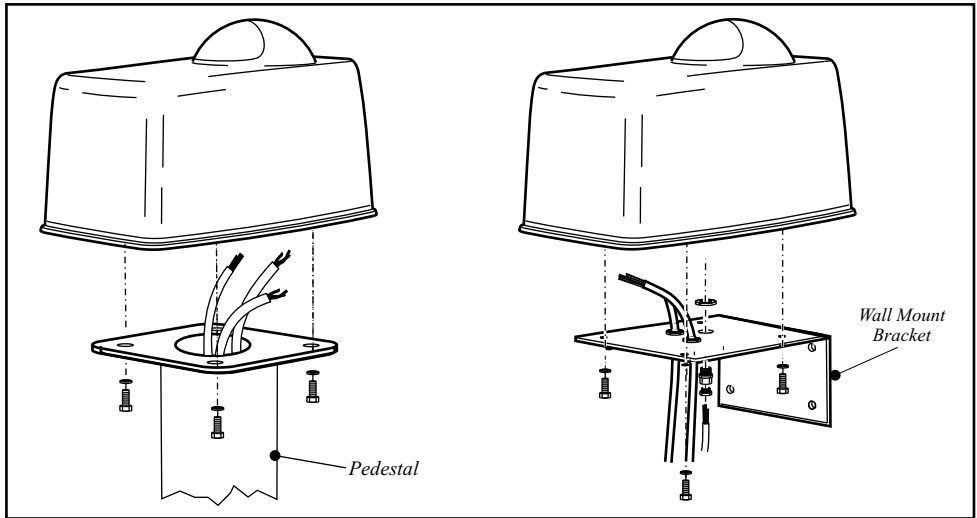

Figure 14 Secure Gearbox to Pedestal Adaptor or Wall Mount Bracket
- Fasten the motor onto the pedestal adaptor plate or wall bracket, as shown in Fig. 14, using the M8 bolts and spring washers as supplied.